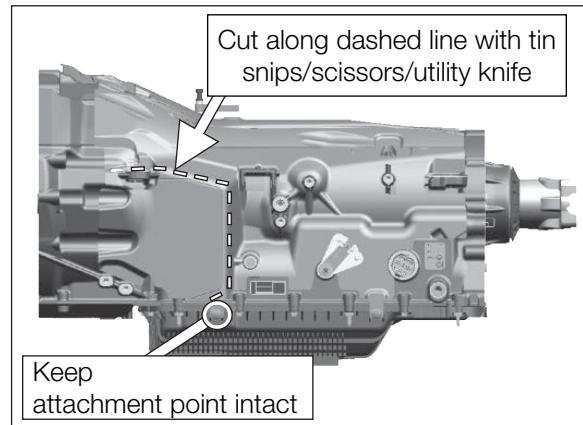

Figure 28
1. If NVH Cover is installed over PTO opening, cut away portion of the cover as described in Ford SVE Bulletin Q-300 (available at www.fordbbas.com), **(Fig. 28)**. Exercise caution when removing cover. Avoid any damage or severing of transmission, wiring, and fluid lines.